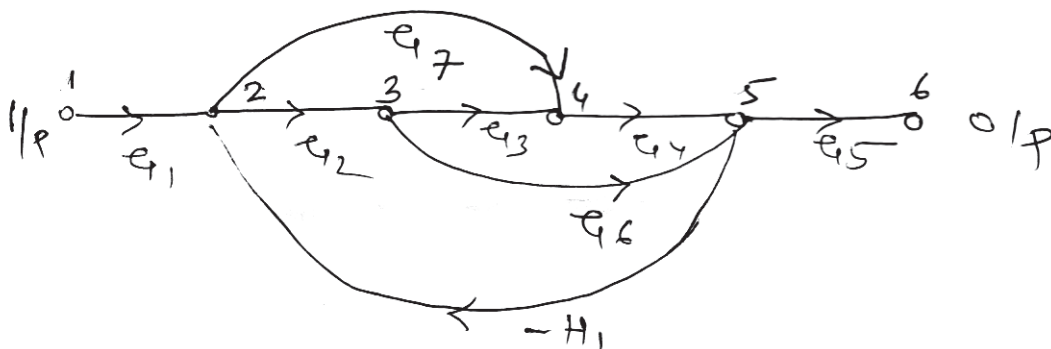

Fig 2a
- Q2)** a) Determine transfer function the system signal flow graph as show in fig.2a. [8]